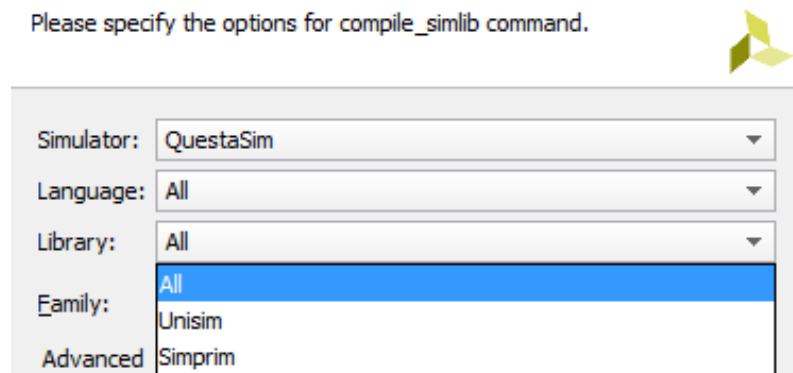

Figure 8-5: Simulation Libraries
- **Library:** Specifies the simulation library to compile. By default, the compile_simlib command compiles all simulation libraries. See Figure 8-5.